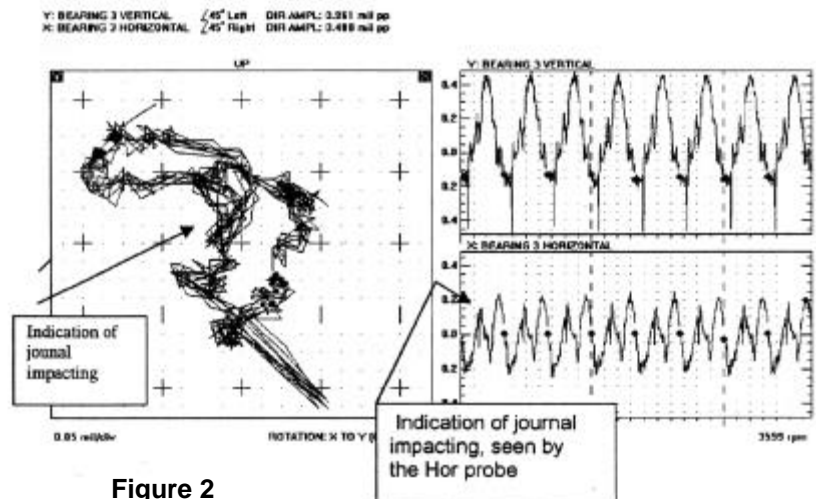

Figure 2
- Journal #3 is impacting a non-rotating element at the 7 o'clock position (Figure 2).